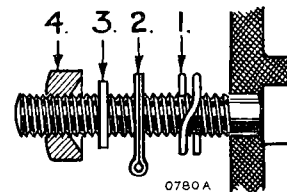

Fig. D.2
All four connections, namely, the two ends of the earthing tag and the two ends of the coil, should be soldered. The coil end leading to the terminal should be soldered to its tag and not to the retaining nut. In the case of the terminal screw which holds the bakelite cover in position similar considerations apply, the assembly being: spring washer (1), wiring tag (2), lead washer (3), and recessed nut (4) (see Fig. D.2). A lead washer has been found necessary at this point as some few cases of bad connection have been found. Under no circumstances must the spring washer be omitted, or the assembly shortened in any way. Any attempt to do so is likely to lead to breakage of the pedestal when the nut retaining the cover in position is tightened up.